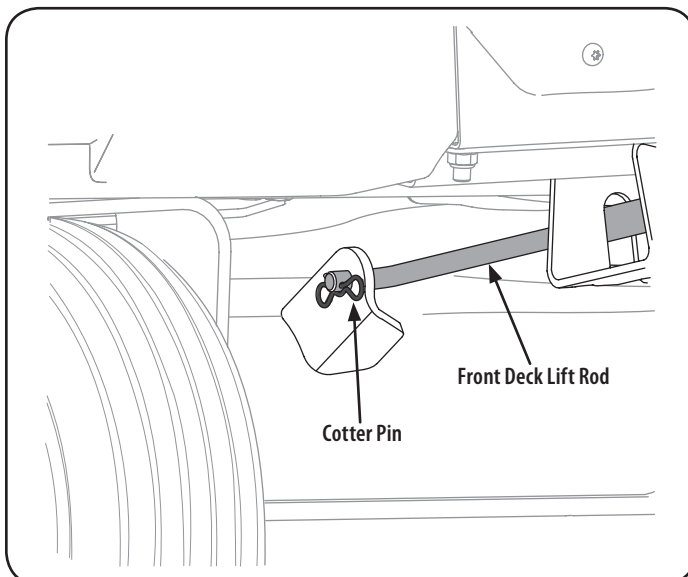

Figure 33
7. Pull the cotter pin out of the front deck lift rod securing it to the deck. See Figure 33. Slide the deck lift rod out of the front hanger bracket.
6. Reinstall the front deck lift rod and secure in place with the cotter pin. Refer to Figure 33.